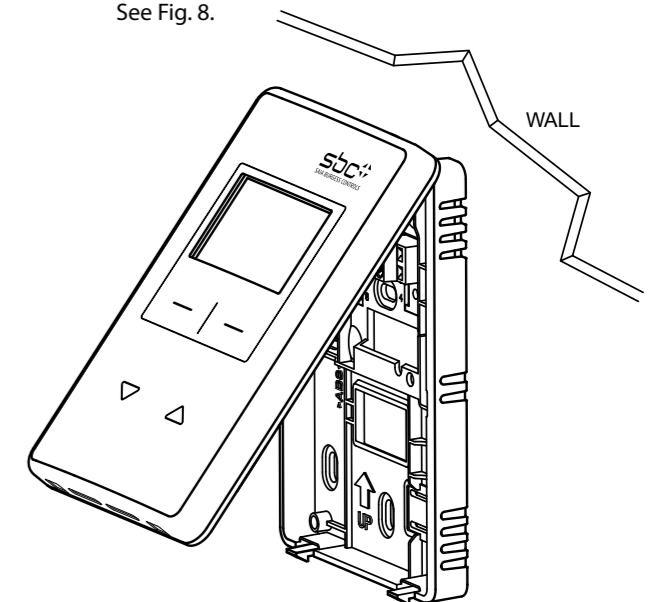

Fig. 8. Removing Wall Module from Subbase.
When all wiring is complete, hook the top side, and then snap down like on a hinge. See Fig. 8.
3. Pull the wall module up and away from the subbase. See Fig. 8.